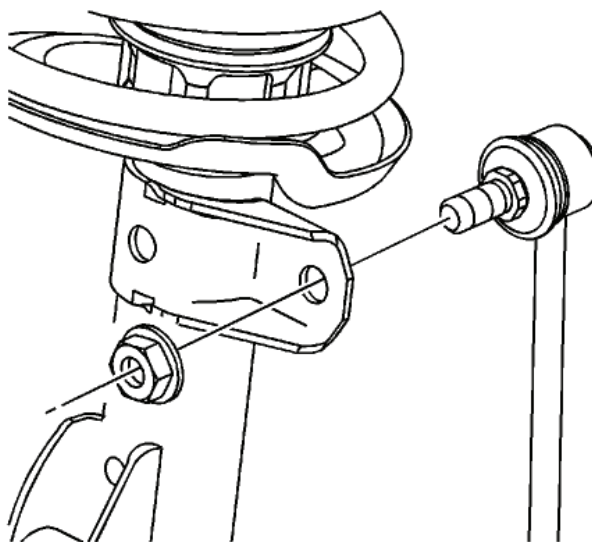

fig. 2
2. Detach brake hoses, wheel speed sensors, and the stabilizer link from the strut assembly (figure 2).